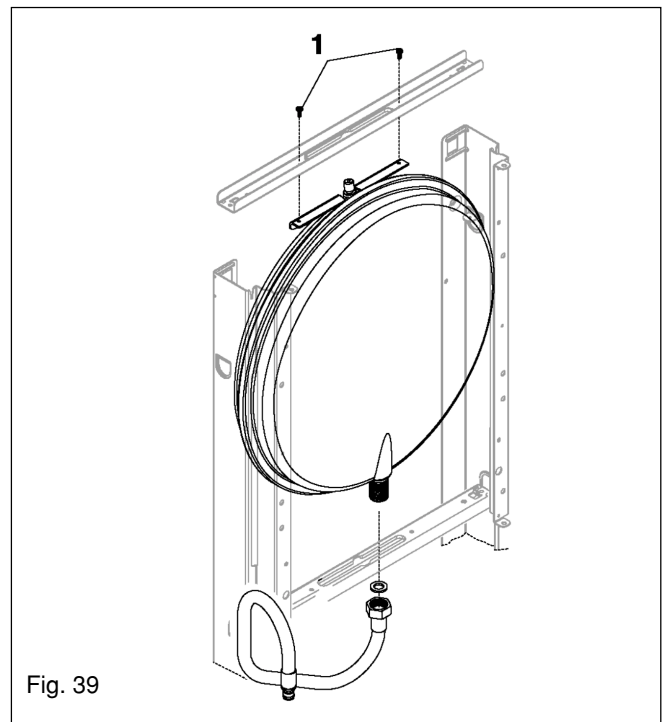

Fig. 39
Disconnect the flexible expansion pipe from the vessel (fig. 39). Locate and remove the four screws that secure the vessel top holding plate, remove the plate. The expansion vessel can now be removed. Replace in the reverse order. Ensure all seals are in good condition, taking care to ensure they are replaced correctly.
Locate and remove the 2-screws that secure the lower section of the air chamber. Locate and remove the 2-screws that secure the upper section of the air chamber. The complete air chamber assembly can now be lifted clear from the appliance. Disconnect the flexible expansion pipe from the vessel (fig. 39). Locate and remove the 2-screws that secure the vessel (1). The expansion vessel can now be removed. Replace in the reverse order. Take extreme care when refitting the wiring to the air chamber. Ensure all seals are in good condition, taking care to ensure they are replaced correctly.